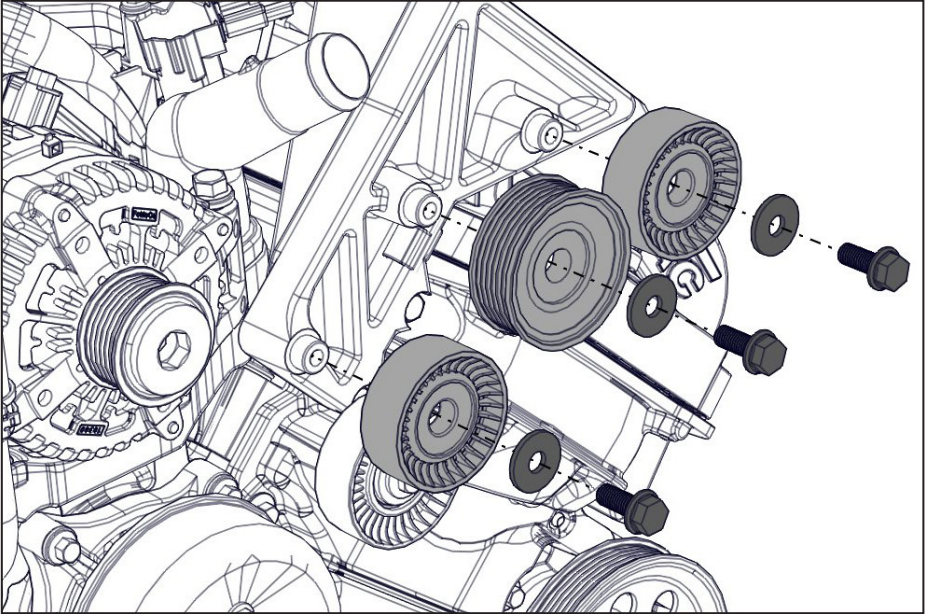

Figure 19 — Install VMAC idlers
□ Install the VMAC idlers onto the main bracket (Figure 19).